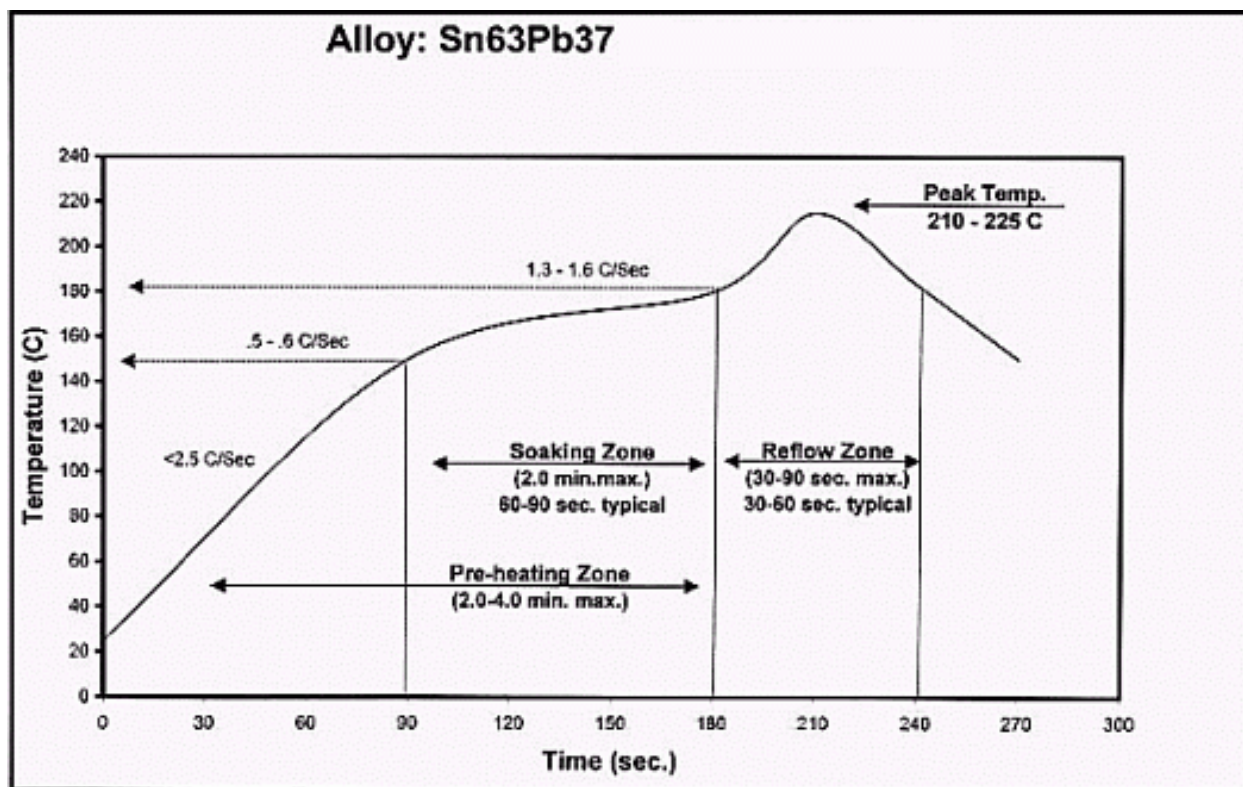

Figure 6. Typical Temperature Profile for Eutectic Sn-Pb Solder Paste
- Eutectic Sn-Pb solder paste reflow to eutectic Sn-Pb and "High-Pb" solder bump WLPs: Nominal peak temperature is $220^{\circ}\text{C} \pm 15^{\circ}\text{C}$ with time above the 183°C melting point of $60\text{ sec.} \pm 15\text{ sec.}$, which should be verified at machine setup by inline thermocouple measurements oven profiling. A typical eutectic Sn-Pb solder paste reflow temperature profile is shown in Figure 6. The peak temperature Upper Limit is recommended for eutectic Sn-Pb solder paste reflow to "High-Pb" solder bump WLP, to further enhance the intermetallic bond layer at the bump interface.